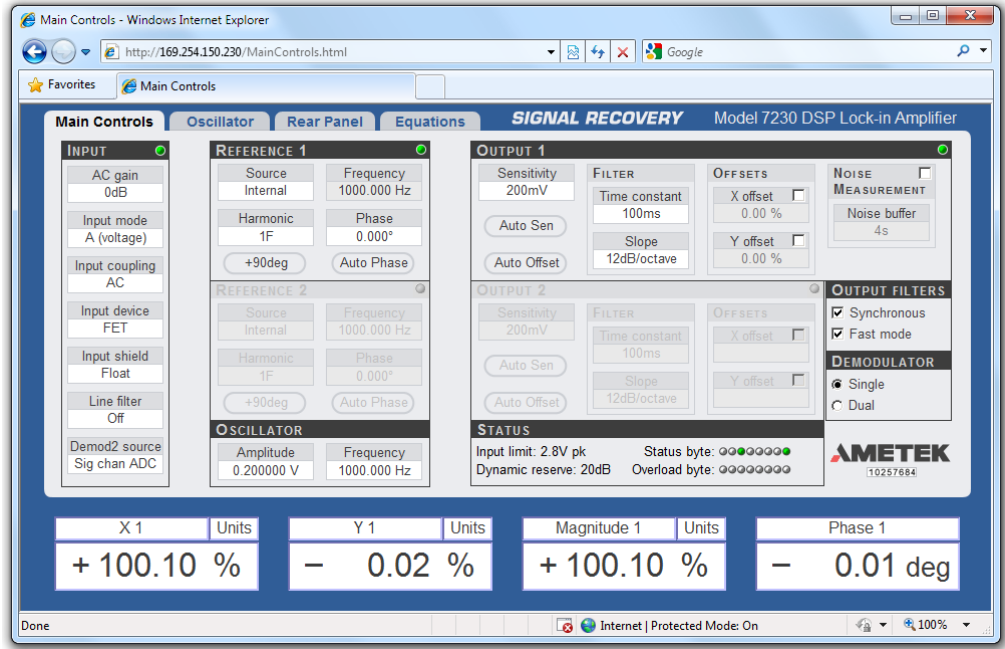

Figure 2-5, Model 7230 Main Controls Panel – Default Settings
- 11) Connect a BNC cable from the front panel **OSC OUT** to **A** input connectors on the front panel. The X1 and Magnitude outputs should read 100%, and the Y1 and Phase 1 outputs should read close to zero, as shown in figure 2-5 below.